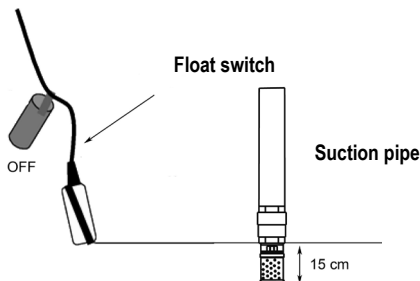

Figure 06
1. Position the float as indicated in figure 06.